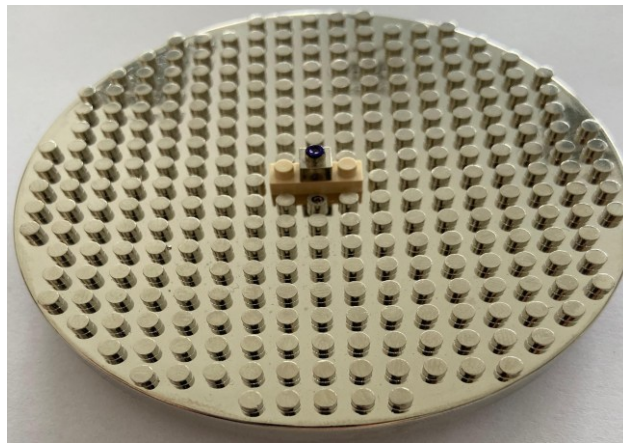

Figure 9 Ground plane with a dielectric feed cell and a metal feed cell
9. The ground plane is shown in Figure 9. Locate the “dielectric feed cell with a hole” over the inner conductor pin of the connector. Locate the “1X1 metal feed cell” over the hole.